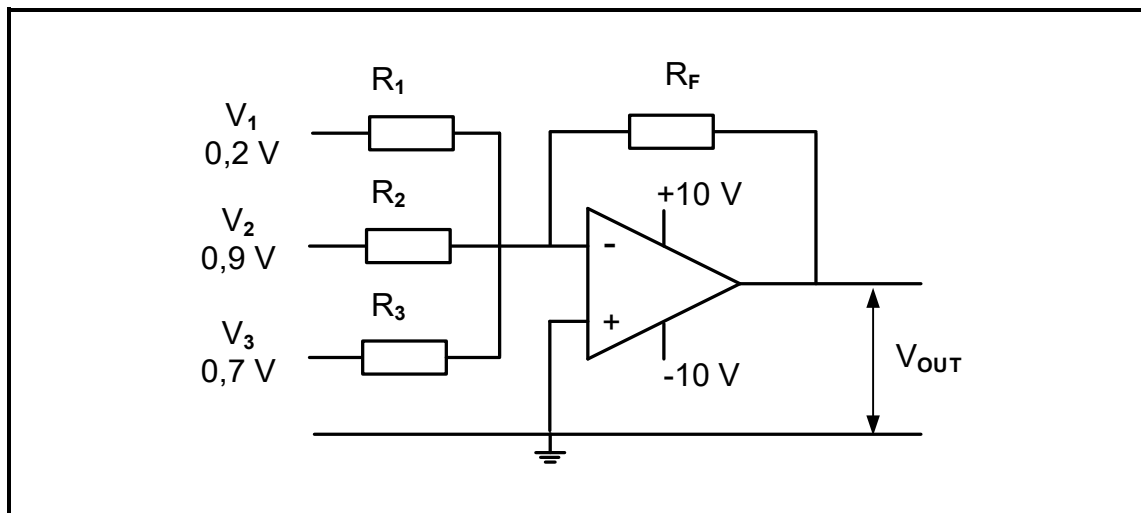

FIGURE 3.7: SUMMING AMPLIFIER
- 3.7 FIGURE 3.7 and TABLE 3.7 below show the resistor values, output voltages and gain of a summing amplifier. Refer to FIGURE 3.7 and study TABLE 3.7 to answer the questions that follow.